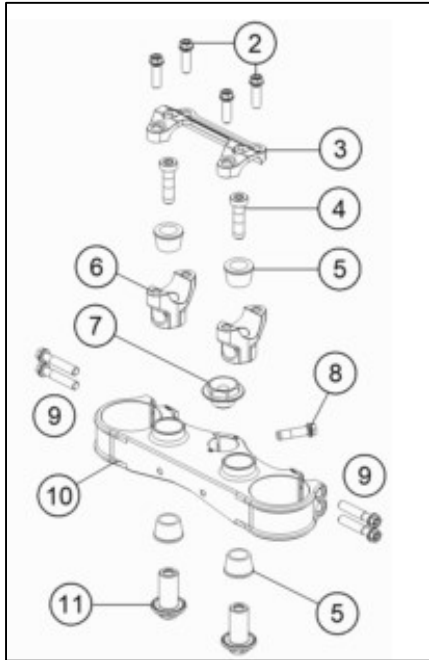

Fig. 3
6. Remove components (4, 5, 6, 11) on the old triple clamp in (Fig.3).
7. Mount components (4, 5, 6, 11) on the new triple clamp and tighten (Fig.3).
8. Mount components (8, 9) on the new triple clamp but do not tighten yet (Fig.3).